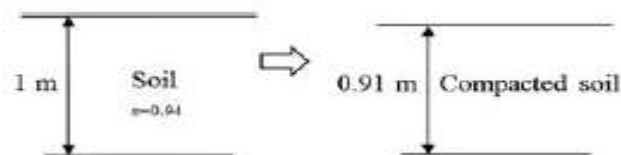

Figure 3.4 Changes in the soil layer thickness in Problem 3.4
**Problem 3.4** A 1 m thick soil with the initial void ratio of 0.94 was compacted by a roller and its thickness reduced by 0.09 m (Fig. 3.4). The specific gravity of this soil was 2.65. A 178 g soil sample was collected from the compacted soil mass to examine the degree of compaction; it was dried in an oven for 24 h and it had a dry mass of 142.4 g. Determine the degree of saturation after the compaction.